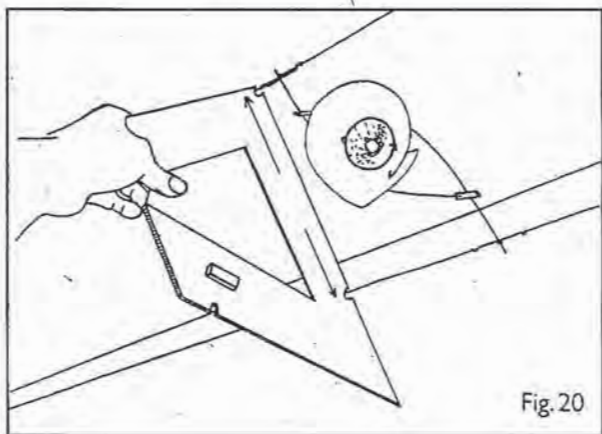
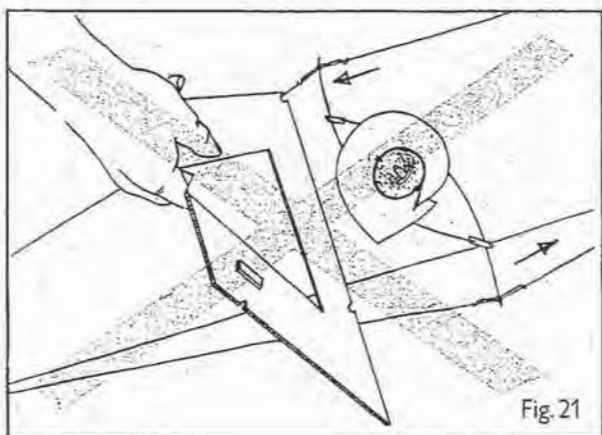

Fig. 20
Fig. 21
3. Check that the lighting elements are correctly positioned on the cables by using the two grooves in the template to measure the vertical distance between the two cables. The correct distance is exactly 24 cm (Fig. 20). If the distance between the cables is slightly less or more than 24 cm, the angle between the lighting elements and the cables can be corrected by adjusting the position of the retaining springs on the cables (Fig. 21).